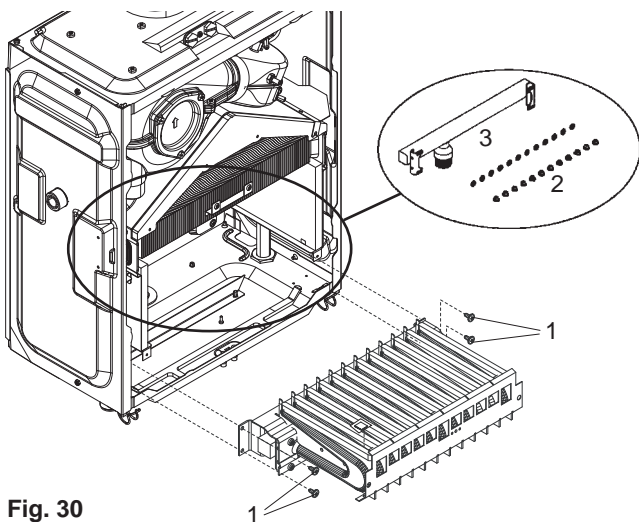

Fig. 30
- 8.8.6 FIG. 30: locate and remove the four screws which secure the burner in position (1), gently ease the burner out of its location.